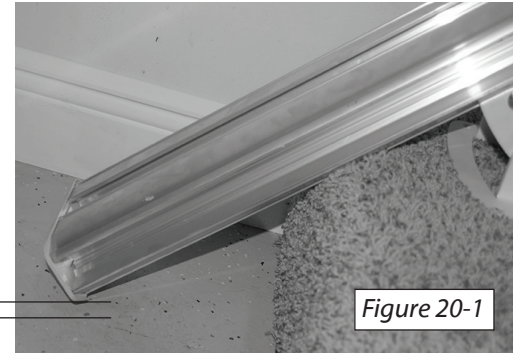
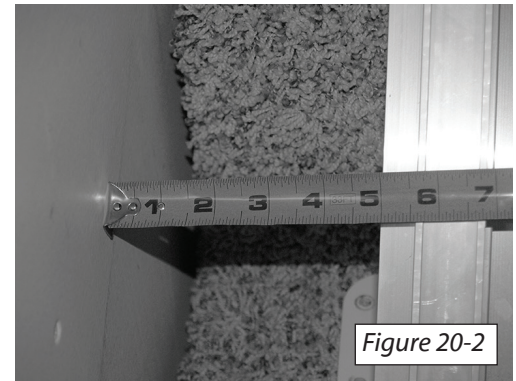

Figure 20-1
Figure 20-2
1. Set the lower section of rail onto the steps. The bottom of the rail should be resting on the stair nosings and the bottom end should be 1/4" - 1/2" off of the floor at the bottom landing [Figure 20-1]. Position the rail 5 in. [Figure 20-2] from the wall or any protruding object.